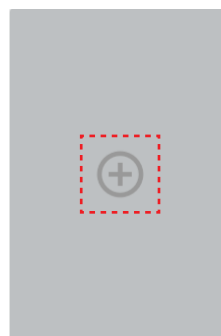

Figure 5: Gray box with + sign
2. A gray box with a + sign will appear (see **Figure 5**)